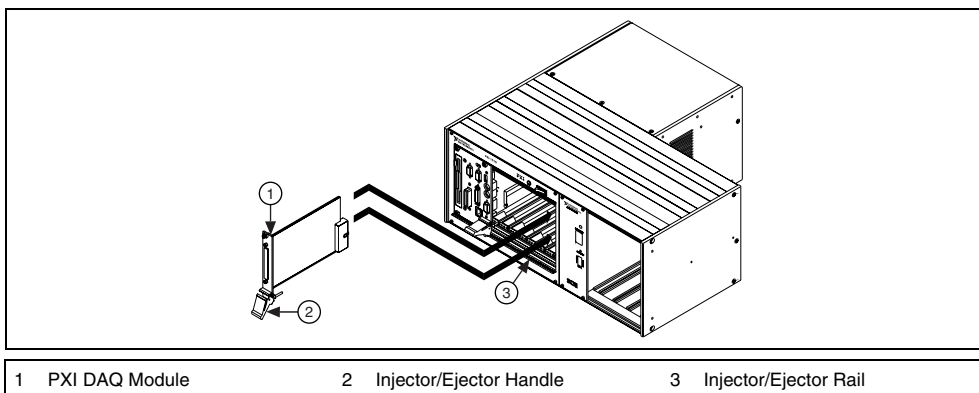

Figure 4. Installing the PXI Module in a New Chassis
2. Place the module edges into the top and bottom PXI module guides, as shown in Figure 4.